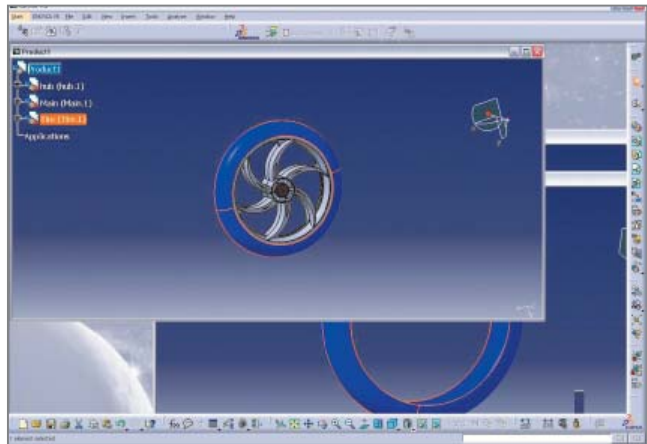
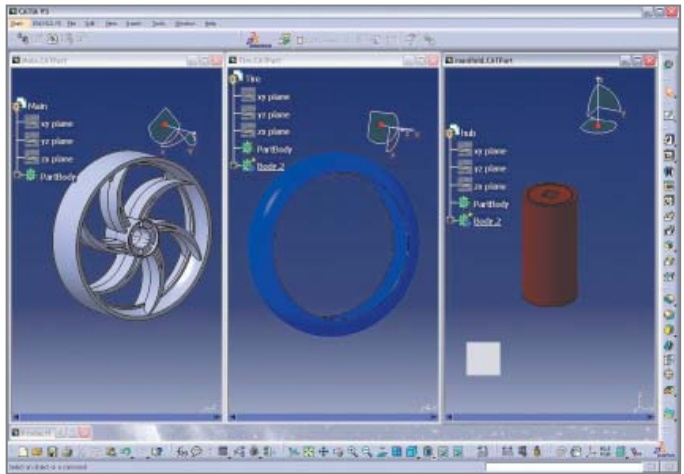
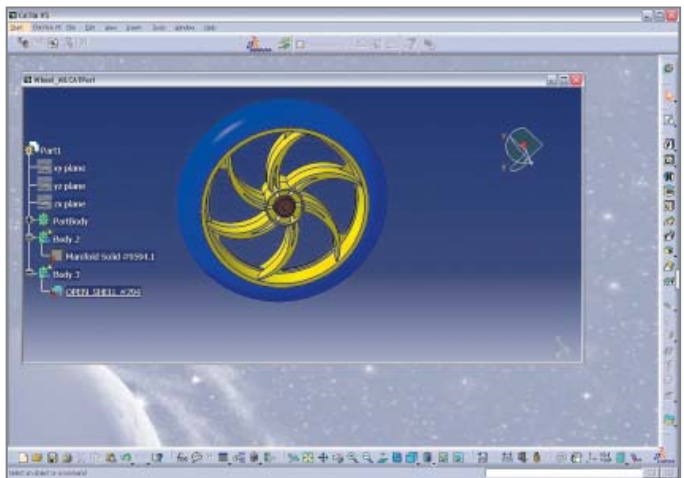

Figure 17. An assembly imported into Catia
Figure 18. Assembly components saved as individual parts
Figure 19. Part assembled from individual parts
If the source design was saved as an assembly, it is imported as a *CatiaPRODUCT* model (see Figure 17).
4. In the product window, select this component (Figure 17), and copy it (with the *Edit* menu or the right-click pop-up menu).
Figure 18 shows the result of pasting the components of the product from Figure 17 into individual part files.
- 8.** Copy each of the individual components (parts) from the working files (Figure 18) and paste them into the new (combined) model file (Figure 19).